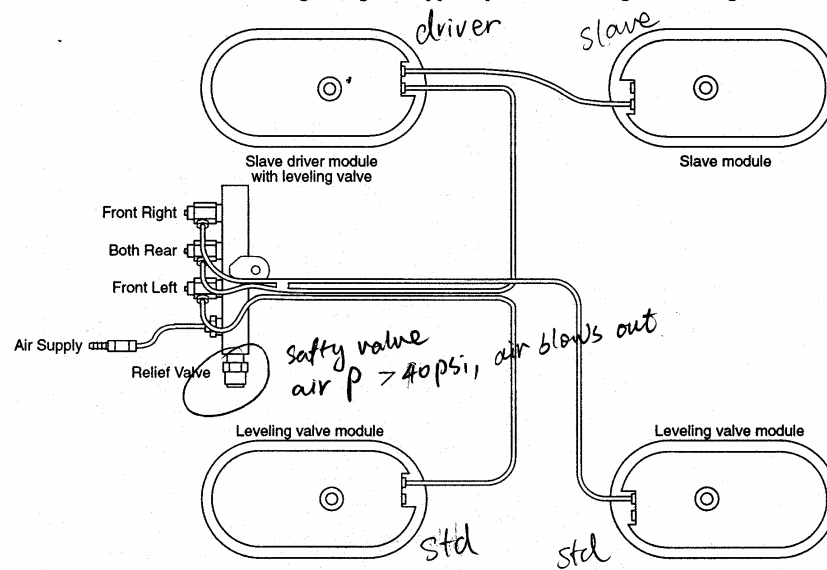

Figure 4 — Air line connections (Top view of isolator modules)
- Interconnect the modules and the air distribution manifold using the $\frac{1}{4}$ in. tubing as shown in Figure 4. The slave modules are daisy chained to the modules with leveling valves as shown in Figure 4.